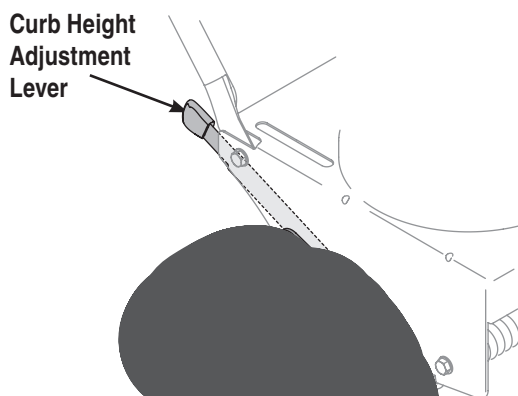

Figure 5-2
1. Move the rear wheel by moving the curb height adjustment lever slightly to the left. See Fig. 5-2.
3. Push the curb height adjustment lever to lock the position. See Fig. 5-2.